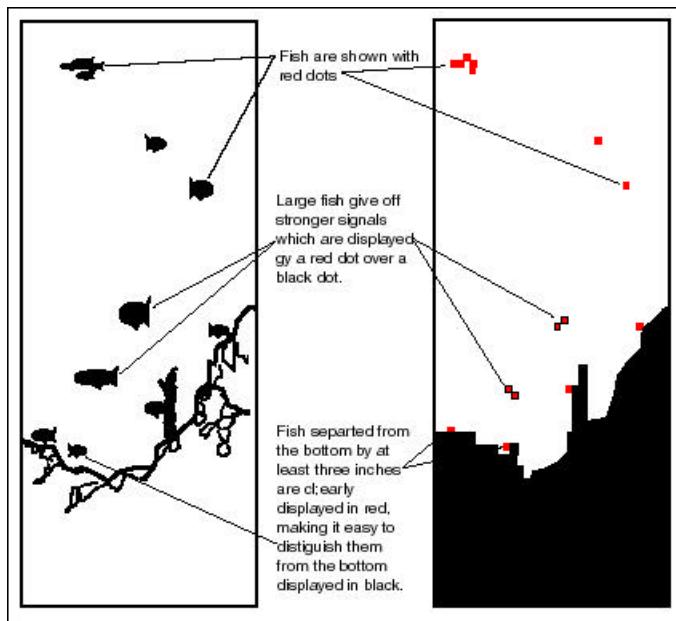

FIGURE 2
- 1. Objects at least three inches off the bottom are displayed in red.** The bottom and structure attached to the bottom are displayed in black. The electronics in the LCR4-ID and LCR40-ID can separate the bottom from objects at least three inches off the bottom no matter what depth range you are viewing. This means that fish close to the bottom will be easily seen on the LCR (see Figure 2). These same fish would be missed on an ordinary display because they would just look like part of the bottom.